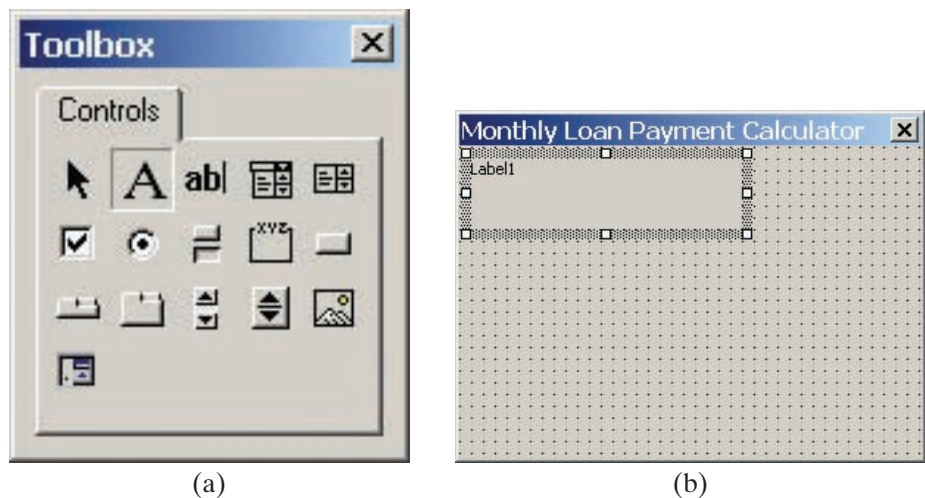
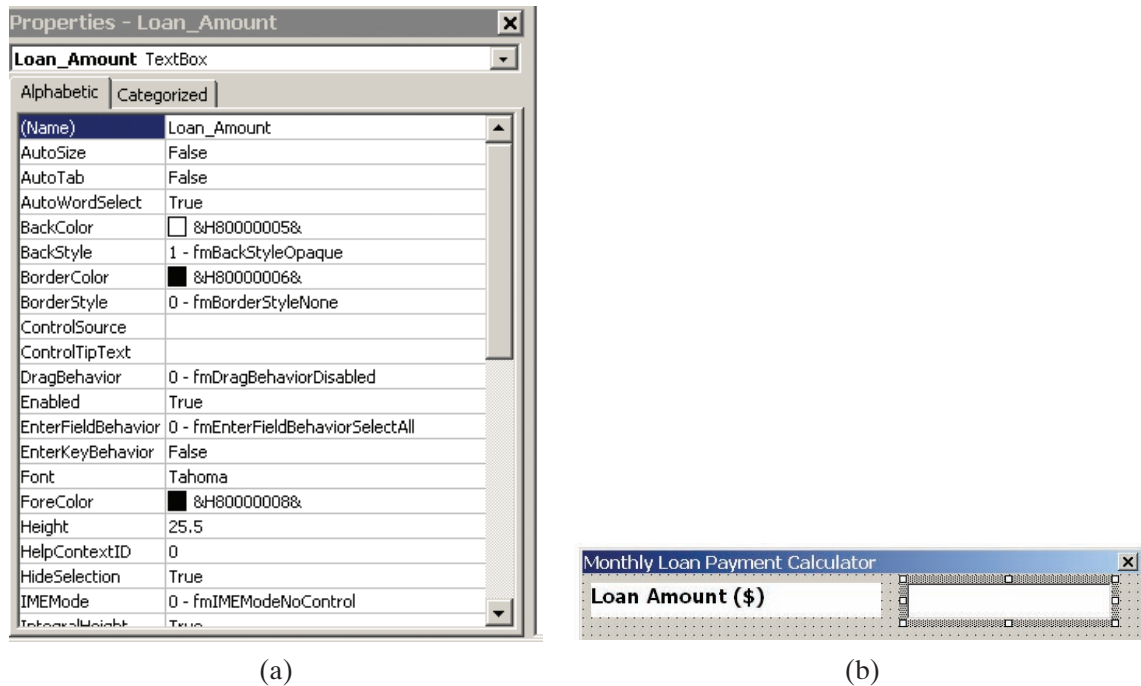

FIGURE 14.61
FIGURE 14.64
6. Next, create the labels and corresponding input boxes for Loan Amount (\$), Interest Rate (%), and Years. In the Toolbox, click on the Label tool [the big **A** button in Figure 14.61(a)]. You should see a crosshair now; move it over to the Monthly Loan Payment Calculator dialog box and then press the left mouse button and draw a box [Figure 14.61(b)] and resize as desired.
12. Next, create an input box(a) next to the Loan Amount (\$) label box. In the Toolbox, click on the TextBox (the **ab** button)[Figure 14.61(a)]. You should see a crosshair now; move it to the right of the Loan Amount (\$) label box, and then press the left mouse button, draw a box, and resize as desired. Name this textbox Loan_Amount [Figure 14.64(a)]. Also, change the BackColor property as shown in Figure 14.64(b).